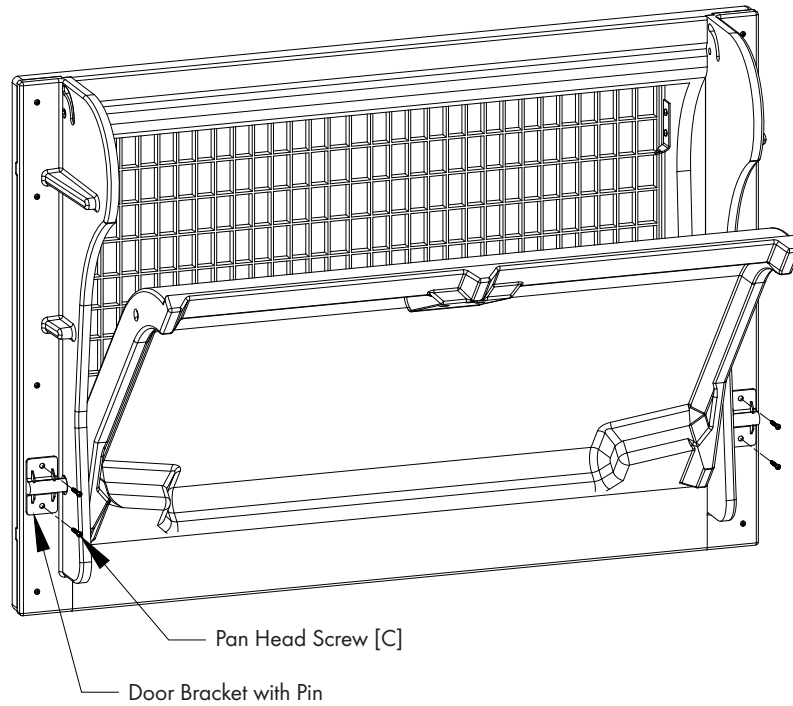

Figure 4
Make sure Door Bracket is aligned with the edge of inlet and secure in place using (2) Pan Head Screws [C]. Repeat for other side. Make sure door opens and closes freely. See Figures 4.